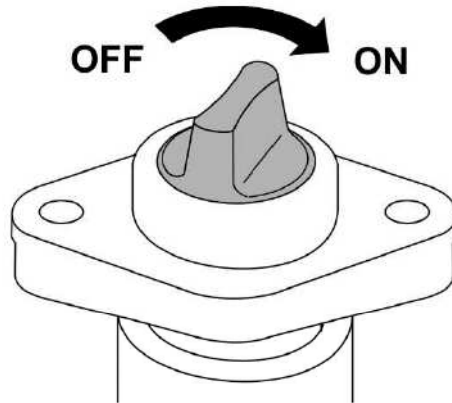

FIG. 4.26 Main switch of control panel
To switch on power supply, turn main switch (FIG. 4.26) clockwise to (ON) position - switched on. The switch is installed on the control panel power lead.